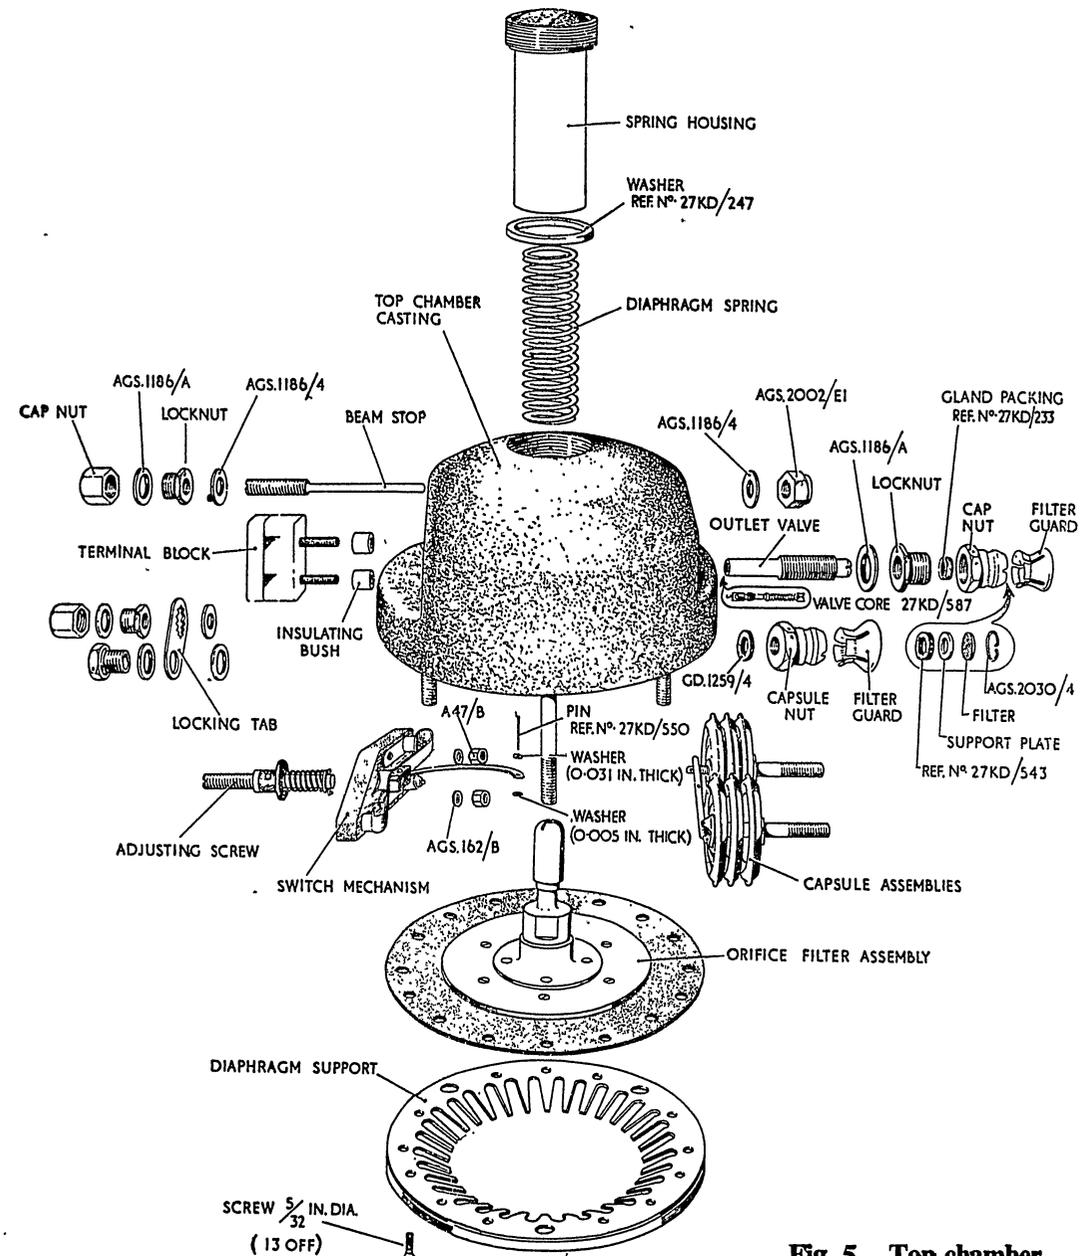
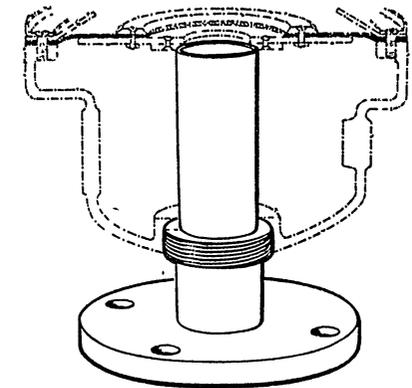

Fig. 5. Top chamber
Fig. 12. Diaphragm setting fixture ST.5003
Top chamber (fig. 5)
(2) Secure a new diaphragm (Ref. No. 27KD/235) between the upper and lower support rings with six screws (Ref. No. 27KD/1412) and nuts (Ref. No. 27KD/238), first coating the threads of the screws with sealing compound (No. 1751). Lock the screws by trimming to length and riveting over.
(3) Insert the internal parts into the orifice cap in the following order: the double spring washer (A.G.S.163/B), a new fibre washer (Ref. No. 27KD/240), the filter, a second fibre washer, the orifice plate and a third fibre washer. Screw the orifice cap on to the orifice body. The filter body and its retaining bolt should be omitted at this stage.
(4) Fit the top chamber to the diaphragm setting fixture ST.5003 (fig. 12), ensuring that it is screwed down to the end of the thread. Apply a light coating of sealing compound (No. 1751) to the rim of the casting and the mating face of the diaphragm support (fig. 5). Set the orifice filter assembly in position, so that the flange on the orifice body is supported by the fixture. Check that the diaphragm is free from wrinkles, and set the diaphragm support in position. Secure the parts with the thirteen $\frac{3}{8}$ in. dia. screws, first coating the threads with sealing compound (No. 1751). Tighten the screws evenly all round to prevent distortion of the diaphragm.